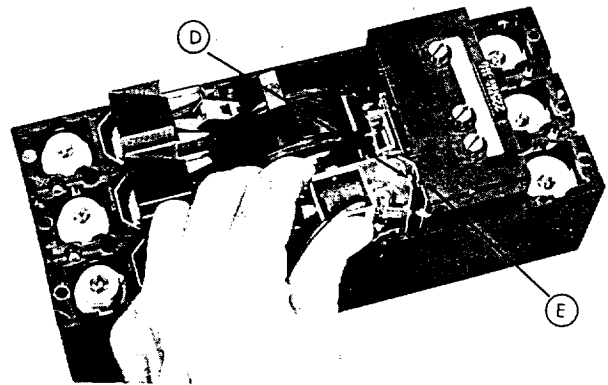

Fig. 8. Installing shunt trip in left pole
Insert the latched plunger into the trip unit knockout. Press into place — this unlatches the plunger, allowing it to contact the breaker trip bar. Small bent tab (D) should fit into hole (E) in the trip unit case. (Fig. 8)